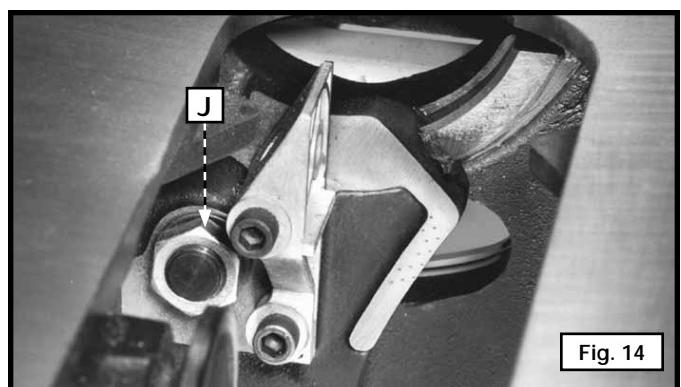
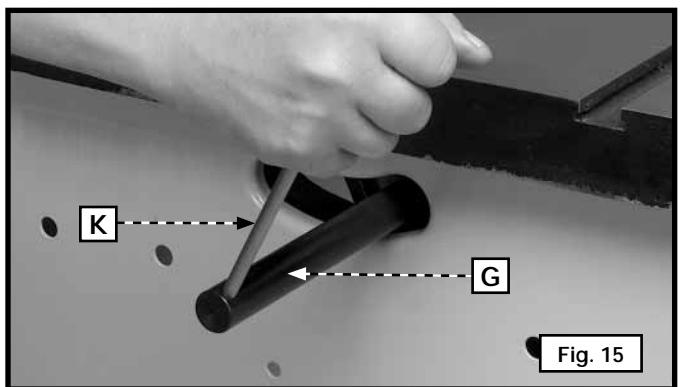

Fig. 14
Fig. 15
6. Insert the threaded end of the support rod (G) Fig. 13 through the slot in the rear of the saw and into hole in the rear trunnion (H). Fasten the support rod (G) to the trunnion with a star washer and a 5/8-18 hex jam nut (J) Fig. 14.
NOTE: Thread the nut (J) Fig. 14 on the threads of the support rod (G) as far as possible by hand.
7. Use a wrench to hold the jam nut (J) Fig. 14. Tighten the rod (G) Fig. 15 with a small screwdriver (K) or similar device through the hole in the end of the rod.